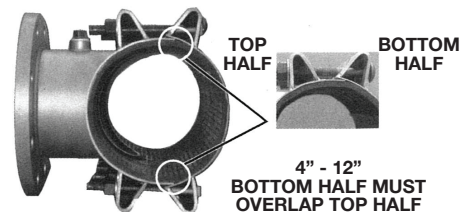

Fig. 3 Sleeve Installation (typ.)
6. Install bottom half of tapping sleeve, tucking gasket flaps in place to assure they are flat and smooth against the pipe surface. Do not rotate tapping sleeve. Make sure bottom half of 4"-12" sleeve laps over metal gap bridges on each side of top half (see Figure 3). Sleeves 14" and larger have separate pieces of metal inserted into gasket to bridge the gaps. For smaller sleeves, the bridges are an extension of the metal in the top half.